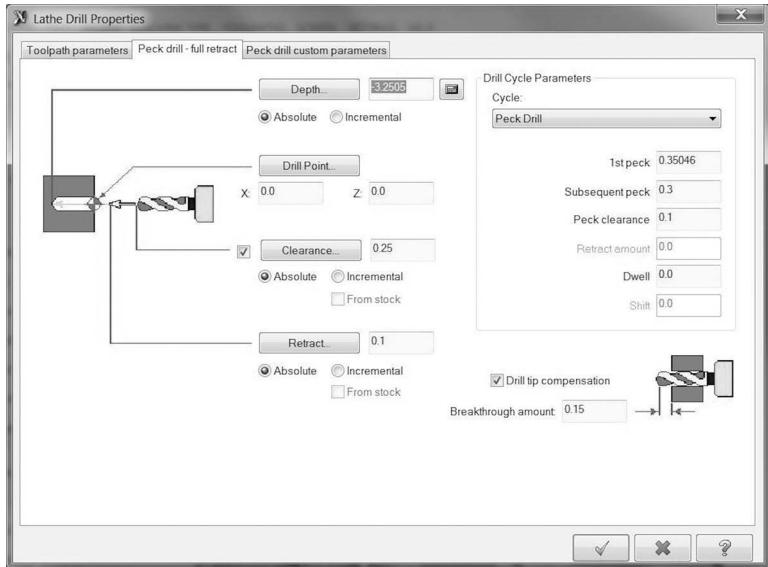

Figure 5-77 Drill Peck Parameters
- Press OK when all settings match Figure 5-77.